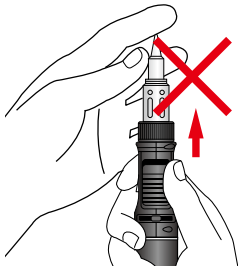

Fig.3
- Do not touch Tip, Tip Housing or Knurled Nut while igniting. (Fig. 3)